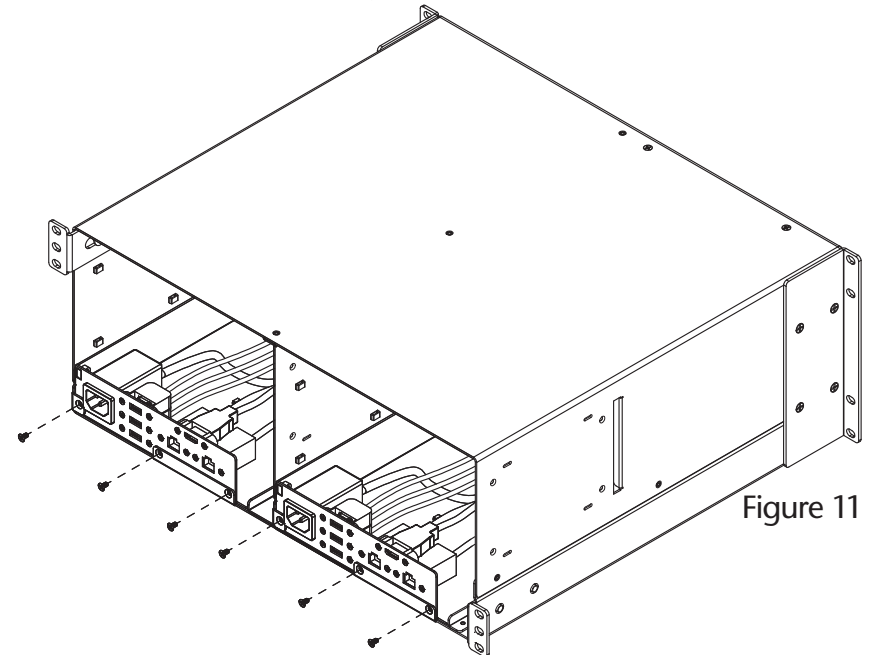

Figure 11
2. Using the six screws you removed previously, secure the computer mounting modules to the rackmount enclosure (**Figure 11**).